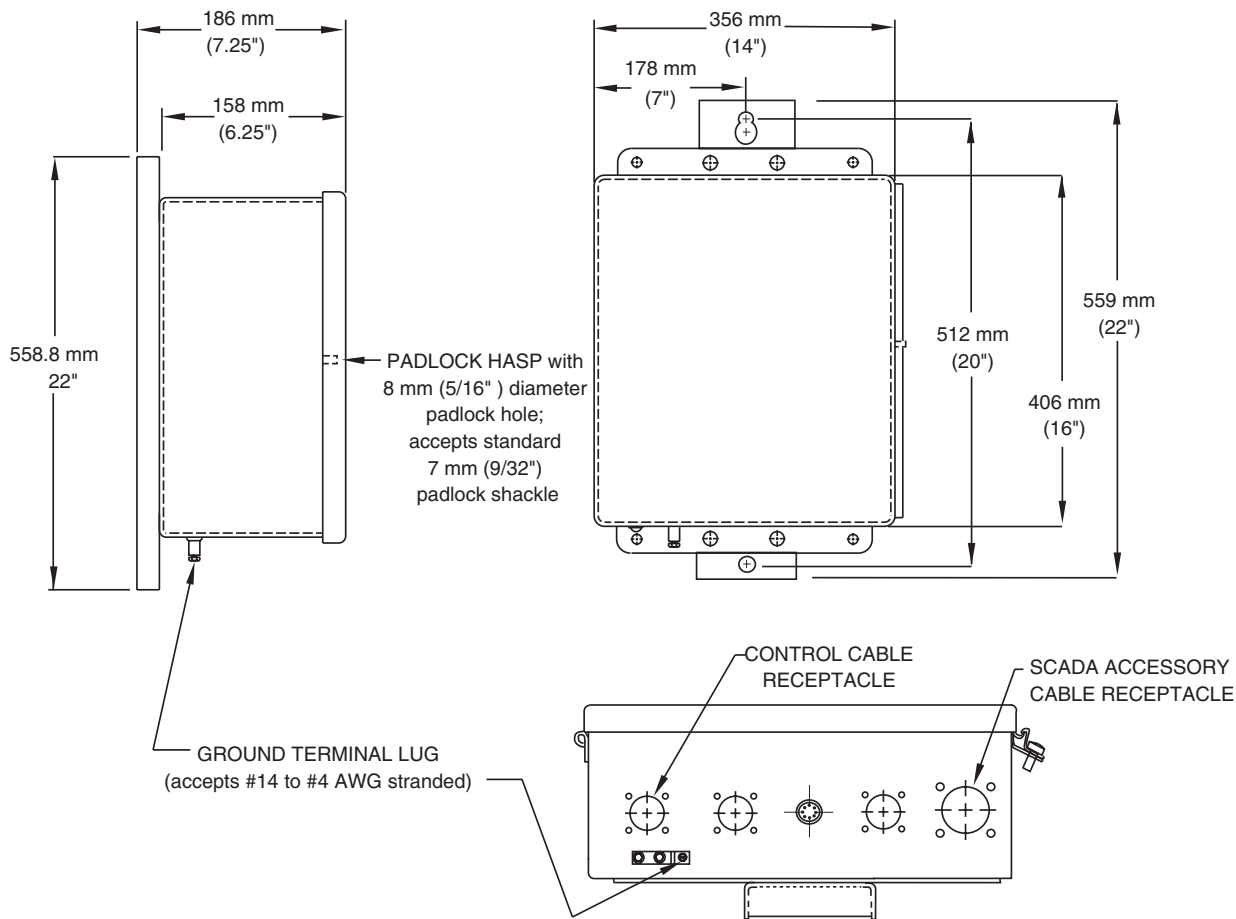
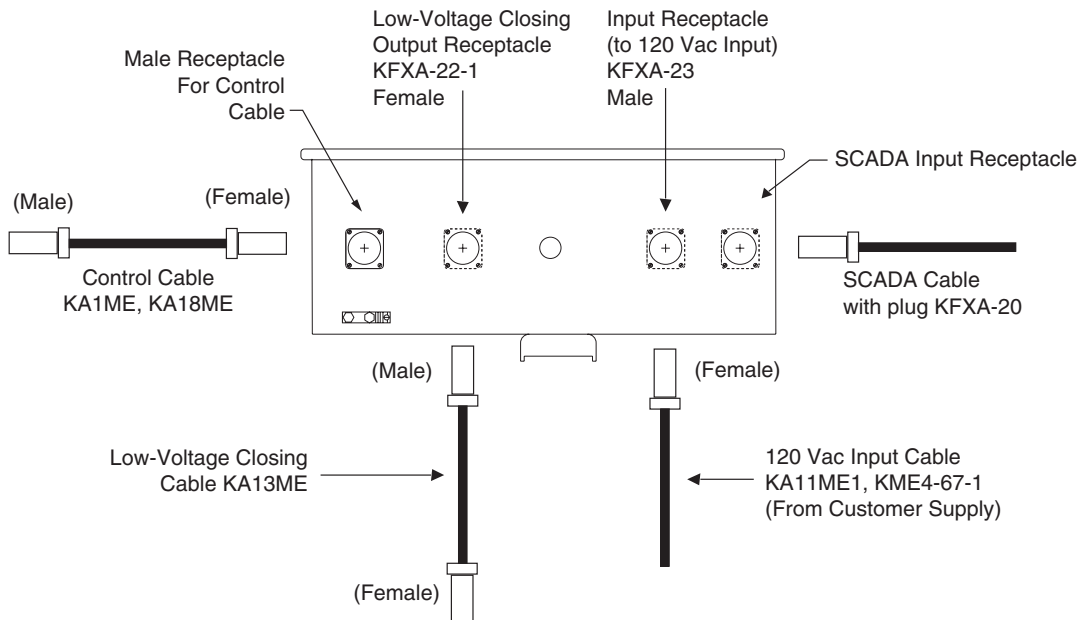

Figure 17.
Figure 21.
Outline, mounting (Figure 17), and knockout dimensions for the control cabinet are shown in Figure 21.
The control cabinet must be grounded. A grounding connector on the underside of the cabinet will accommodate No. 14 solid through No. 4 stranded conductors. Recommended methods for grounding the control and recloser are shown in Figures 17, 18, and 19.
The input power supply consists of an ac (terminals 1-2) and neutral connection (terminals 3&4). The terminal strip ground (terminals 5-6) is for bench-testing purposes only. Ground the control cabinet to the pole through the external cabinet. (see Figures 17, 18, and 19).
Figure 21 shows optional receptacle/cable accessories offered with the type FXA /FXB control.
1. Ground the control cabinet using the grounding terminal lug (Figures 17, 18, and 19).